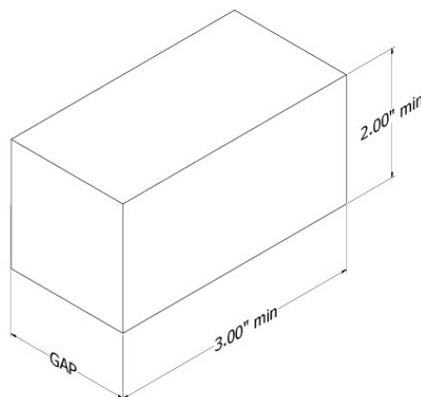

Figure 17: Illustration of spacer
- b. If gaps remain, fill them with spacers measuring at least 2" high x 3" wide (Figure 17). Recommended spacer materials include plastics with compressive yield strength greater than 20MPa. Examples of suitable material available from McMaster-CARR include: